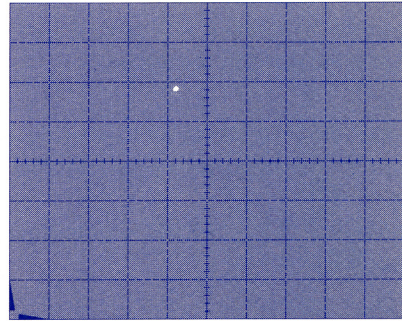

Figure 5-2. Display of valley-point current I_V .
- 5) Apply power to device — Position LEFT-RIGHT switch on 177 to appropriate side. Increase VARIABLE COLLECTOR % supply until trace shows excursion to right (off screen) and then jumps back to left. If necessary, readjust VERT UNITS/DIV to obtain more detail or greater coverage. See Figure 5-2. **34** **8** **33**